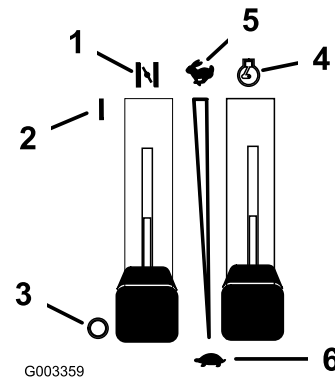

Figure 9
5. Move the choke lever to the on position (Figure 9) before starting a cold engine.
7. After the engine starts, move the choke lever to off and the throttle lever to a position between Fast and Slow (Figure 9). Allow the engine to warm for 3 to 5 minutes before moving the throttle lever to Fast.
1. Move the throttle lever to Slow (Figure 9).